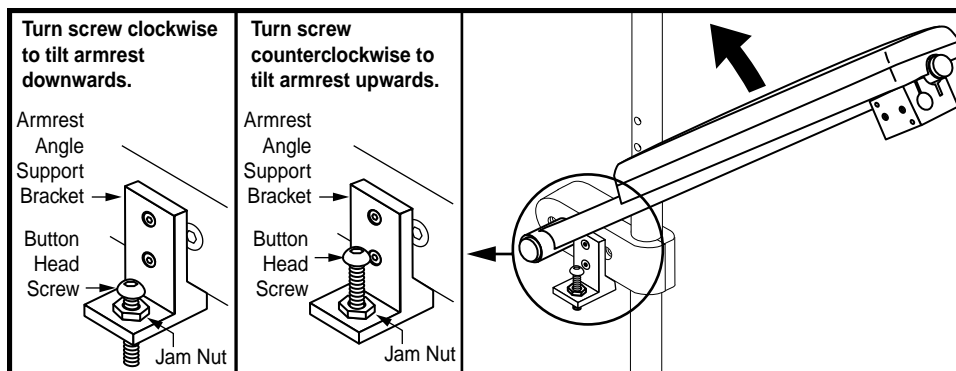

Figure 5. Flip-up Armrest Angle Adjustment
2. Loosen the jam nut located on the armrest angle support bracket. See figure 5.
3. Loosen or tighten the button head screw located on the armrest angle support bracket. Loosening the button head screw will increase the armrest angle; tightening the button head screw will decrease the armrest angle. See figure 5.
4. When the screw has been positioned to the proper angle, tighten the jam nut. See figure 5.
3. Remove the button head screw and jam nut from the armrest angle support bracket. See figure 5.
9. Reinstall and tighten the button head screw to the armrest angle support bracket, then tighten the jam nut. See figure 5.